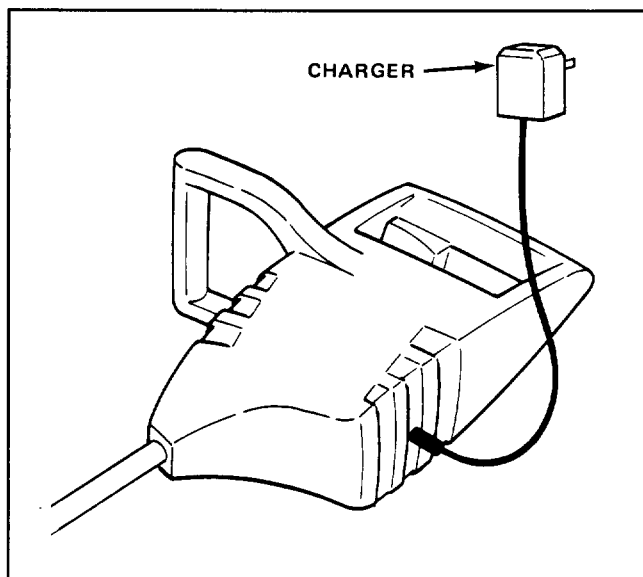

Figure 7
1. Fully charge your battery immediately after each use (Fig. 7). Charging time of 24 hours will restore a discharged battery.
1. Insert charger plug into receptacle located on the bottom of the power case (Fig. 7).